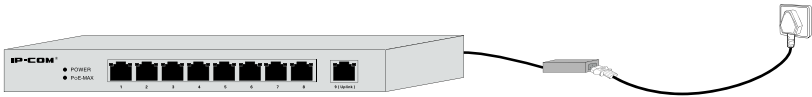

Figure 3-3 Connect to power supply
Step 3: Use the power adapter provided in the product package to supply power for the switch, shown as Figure 3-3.